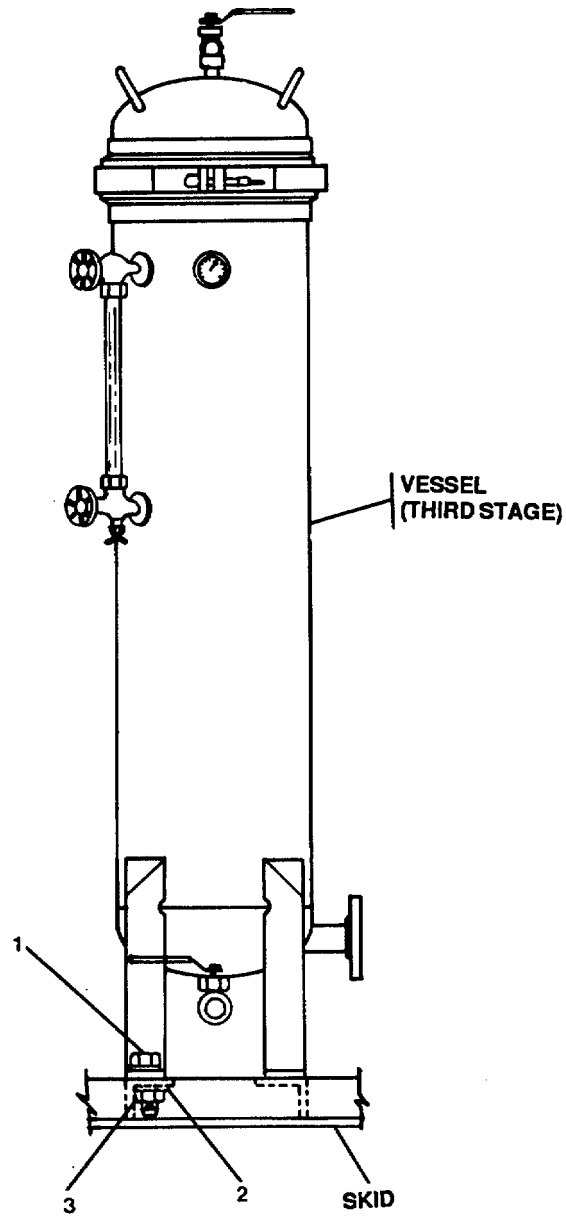

FIGURE 3-24. Vessel Subassembly (Third Stage).
**3-27. Replace Vessel Subassembly (Third Stage).(Figure 3-24)**